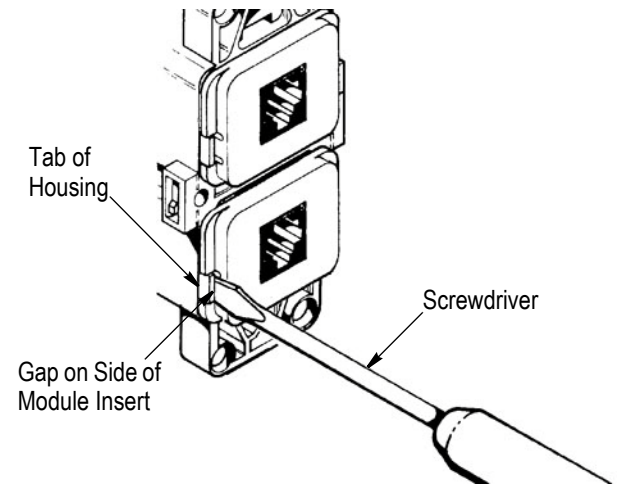

Figure 8
2. Insert the blade of a small screwdriver into the gap on the side of the module insert (between the module insert and the tab on the edge of the housing) to disengage latch. As each latch is disengaged, rock the module insert to release that side. Refer to Figure 8.